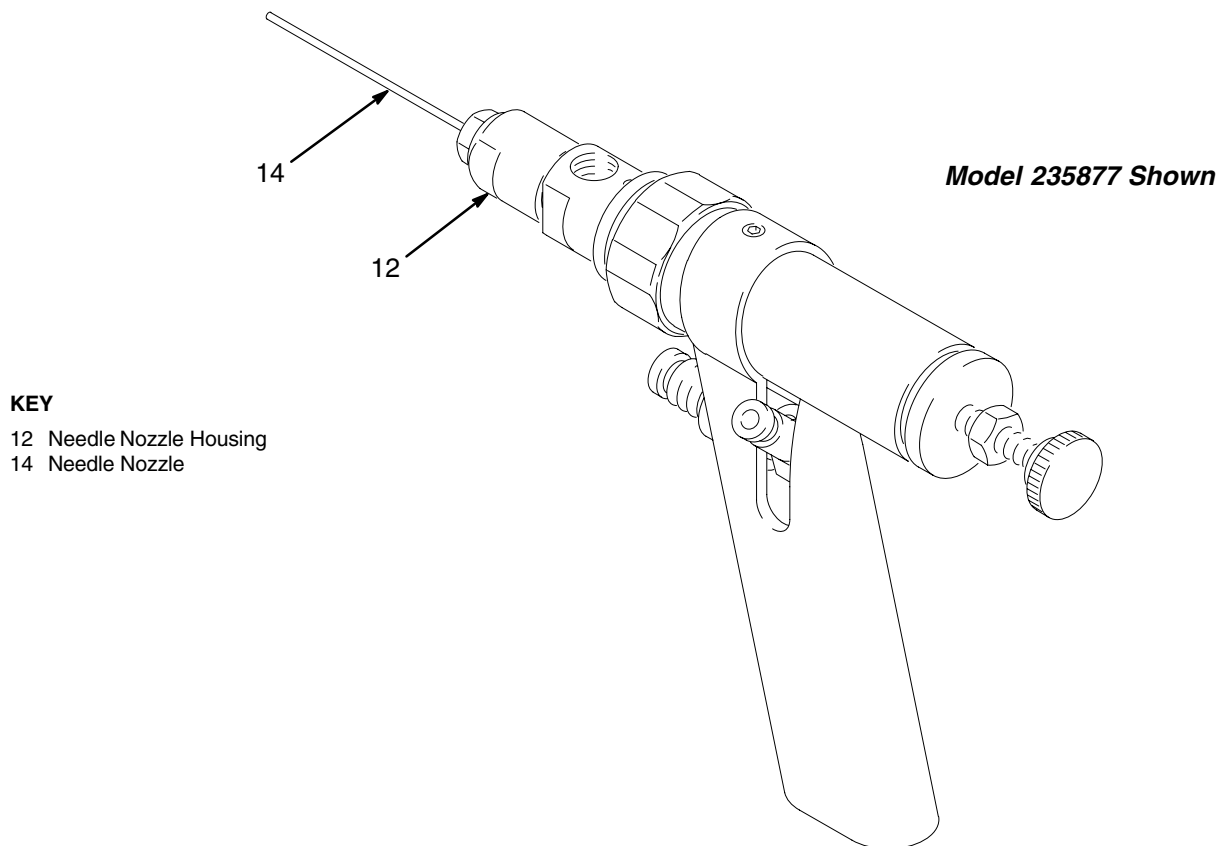

Fig. 1
To install needle nozzles 112000 through 112007, wrap the threads of the needle nozzle with PTFE tape and screw the needle nozzle (14) securely into the housing (12). See Fig. 1.